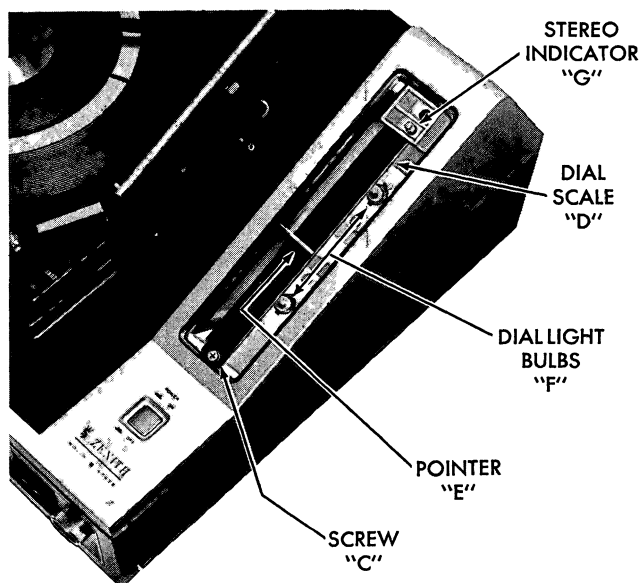

FIGURE 28 – DIAL AND STEREO LIGHT ACCESS
4. Remove screw "C" holding dial scale "D" (See Figure 28).